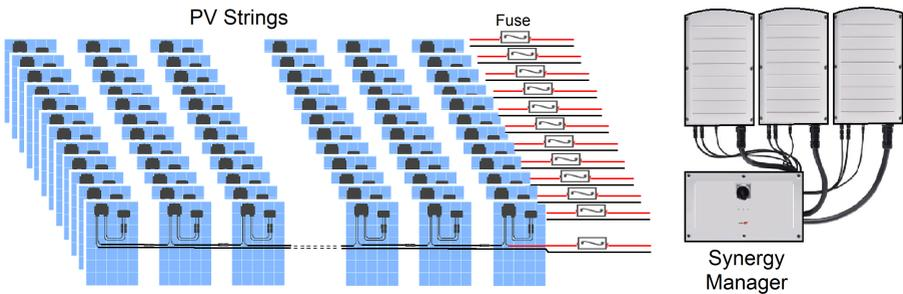
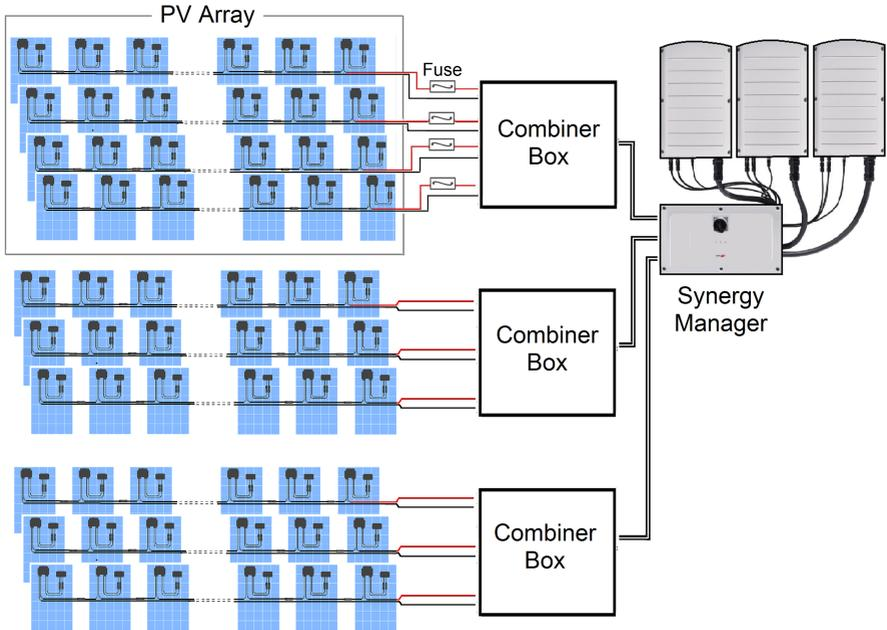

Figure 17: Connection of PV strings to the Synergy Manager
Figure 18: Connection of PV arrays to the Synergy Manager
When installing a system with more than 3 PV strings per a single Synergy Unit (whether connected directly or via a combiner box), fuses are required. In SolarEdge system, 25A fuses must be used (See *Figure 17* and *Figure 18*)
*Figure 17* shows the connection of PV strings and *Figure 18* shows the connection of PV arrays to the Synergy Manager.